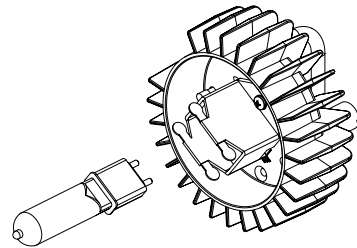

Figure 2-2 Installing the lamp
8. Holding the new lamp by its base, gently press the two base pins straight into the lamp socket until the lamp is firmly seated as shown in Figure 2-2.